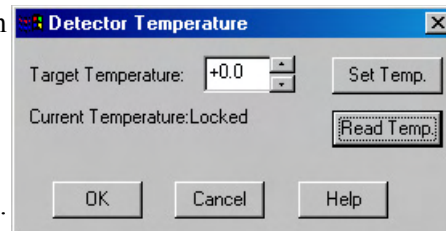

Figure 46. Temperature dialog box
1. Open the WinSpec/32 Setup menu and click on **Detector Temperature**. This will cause the Temperature dialog box to appear as shown in Figure 46.